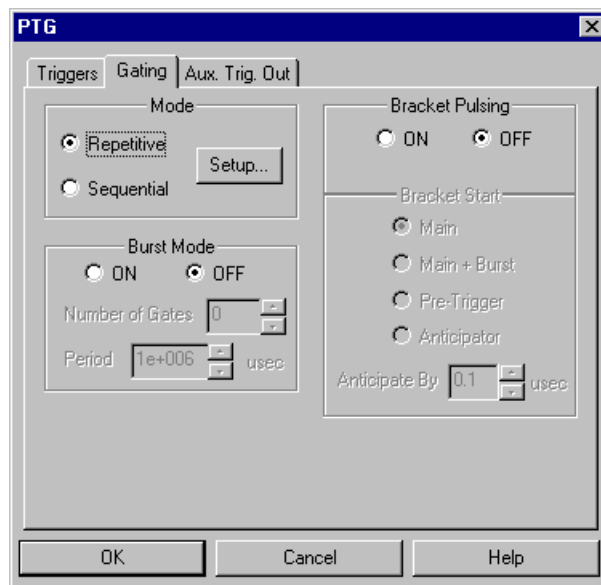

Figure 162. PTG Gating tab page
7. Click on the **Gating** tab (Figure 162).